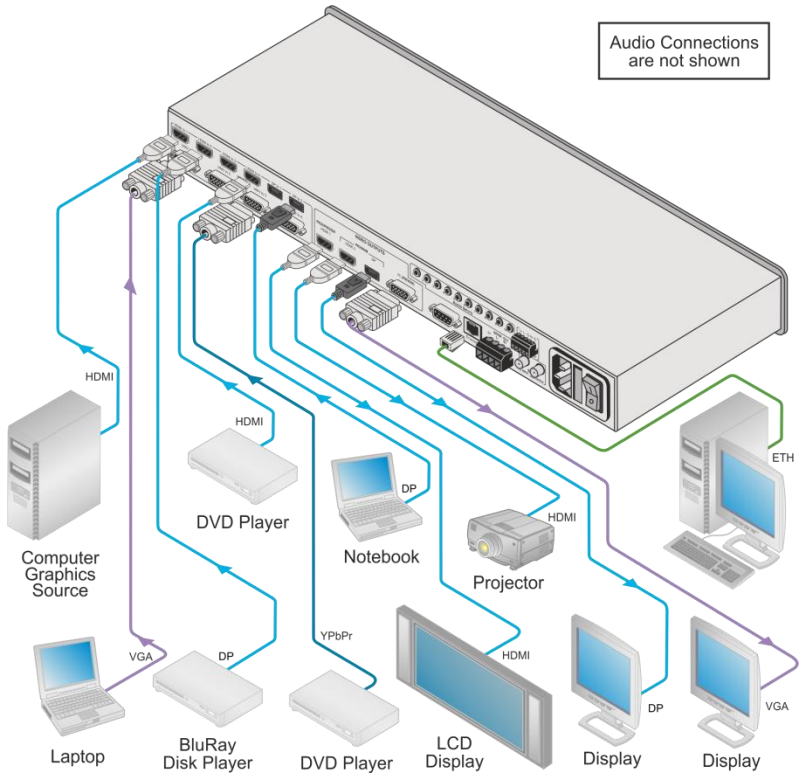

Figure 3: Connecting to the VP-732 Rear Panel
To connect the **VP-732** as illustrated in the example in Figure 3, do the following:
2. Connect the analog stereo inputs (from 1 to 10), not shown in Figure 3.
The USB connector, audio sources and acceptors, and power cord are not shown in Figure 3.